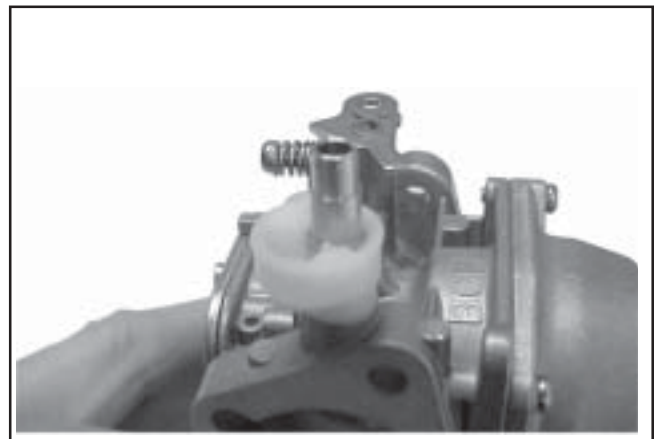

Figure 5-37. Installing Bushing.
8. Turn the old bushing upside down and use it as a driver to carefully press or tap the new bushing into the carburetor body until it bottoms. Check that the choke lever pivots freely without restriction or binding. See Figure 5-37.